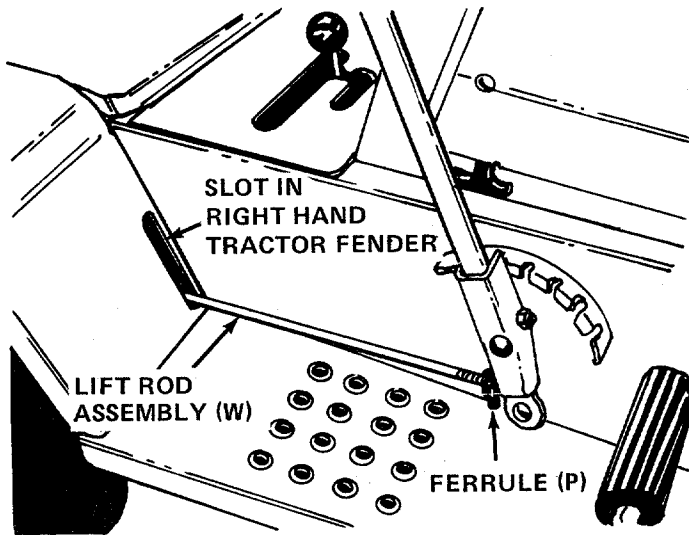

FIGURE 13
21. Place the tiller in position behind the tractor. Slide the tiller forward so the lift rod assembly and ferrule go through the slot in the right hand fender on the tractor. See figure 13.